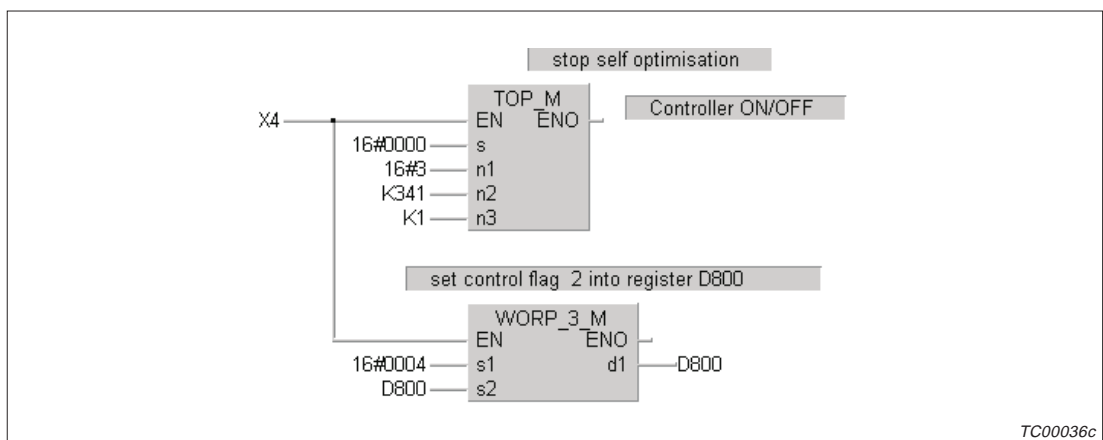

Fig. 5-7: Stopping of self optimisation
- Stopping self optimisation which is in progress (fig. 5-7)
A running self-optimisation process can be stopped using the example program shown in fig 5-7. By switching on input X4 the value "0" is entered in BFM #341 (Individual controller ON/OFF switching). Bit 2 is then set in register D800 (Individual controller ON/OFF switching). Index D800 is written with the program sequence from 5.1.2 in the control word BFM #340.